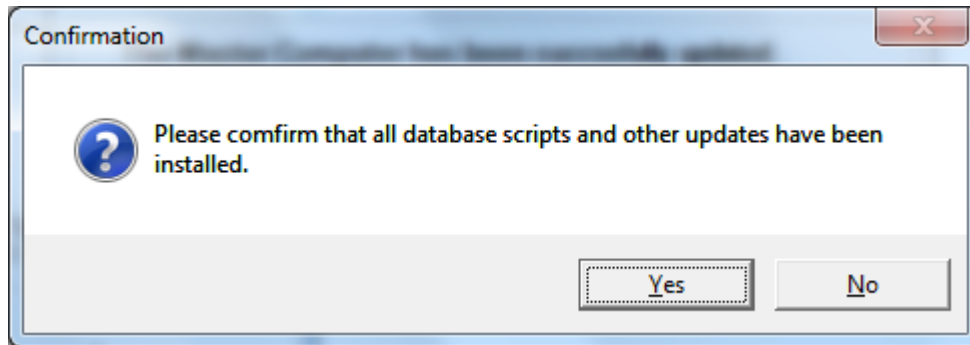

Figure 159. Confirmation Window (Master Computer Only)
5. Click **Yes**. The **Confirmation** window opens, as shown in Figure 159.